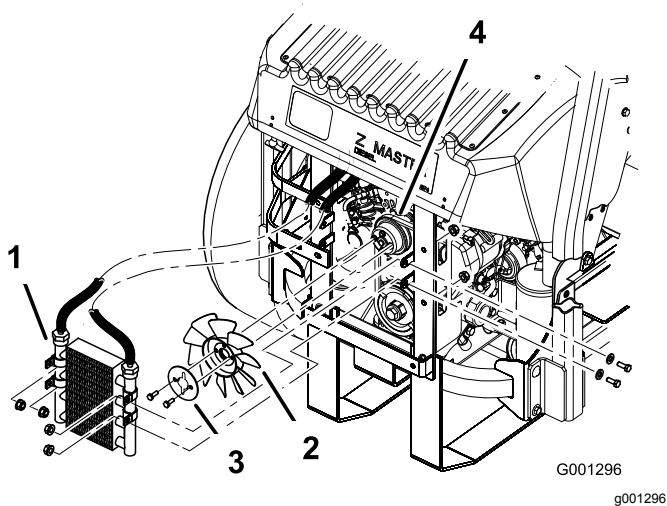

Figure 82
- Remove the 4 bolts holding the oil cooler and position the oil cooler to the side (Figure 82).
- Remove the 2 bolts holding the fan and fan plate to the machine (Figure 82).
- Install the fan and fan plate to the machine with the 2 bolts previously removed (Figure 82).
- Install the oil cooler with the 4 bolts previously removed (Figure 82).